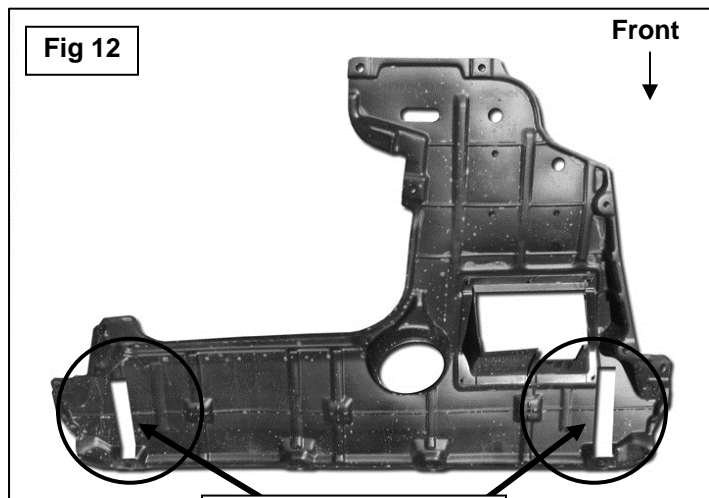

Fig 12
7. Level and adjust the Grille Guard and tighten all Frame Bracket to chassis hardware only. Temporarily remove the Grille Guard. Hold the plastic splash guard up into position against the Frame Brackets. Mark the location of the Brackets onto the cover. Carefully cut the splash guard only enough to clear the Frame Brackets, **(Figure 12)**. Do not cut completely through the front edge of the cover. Do not cut off any mounting locations from the cover. To maintain strength, cut only material that is required to clear the Frame Mounting Brackets. Once cut and trimmed for clearance, slide the splash guard over the Brackets but do not reinstall.
Figure 12 illustration is for example only.